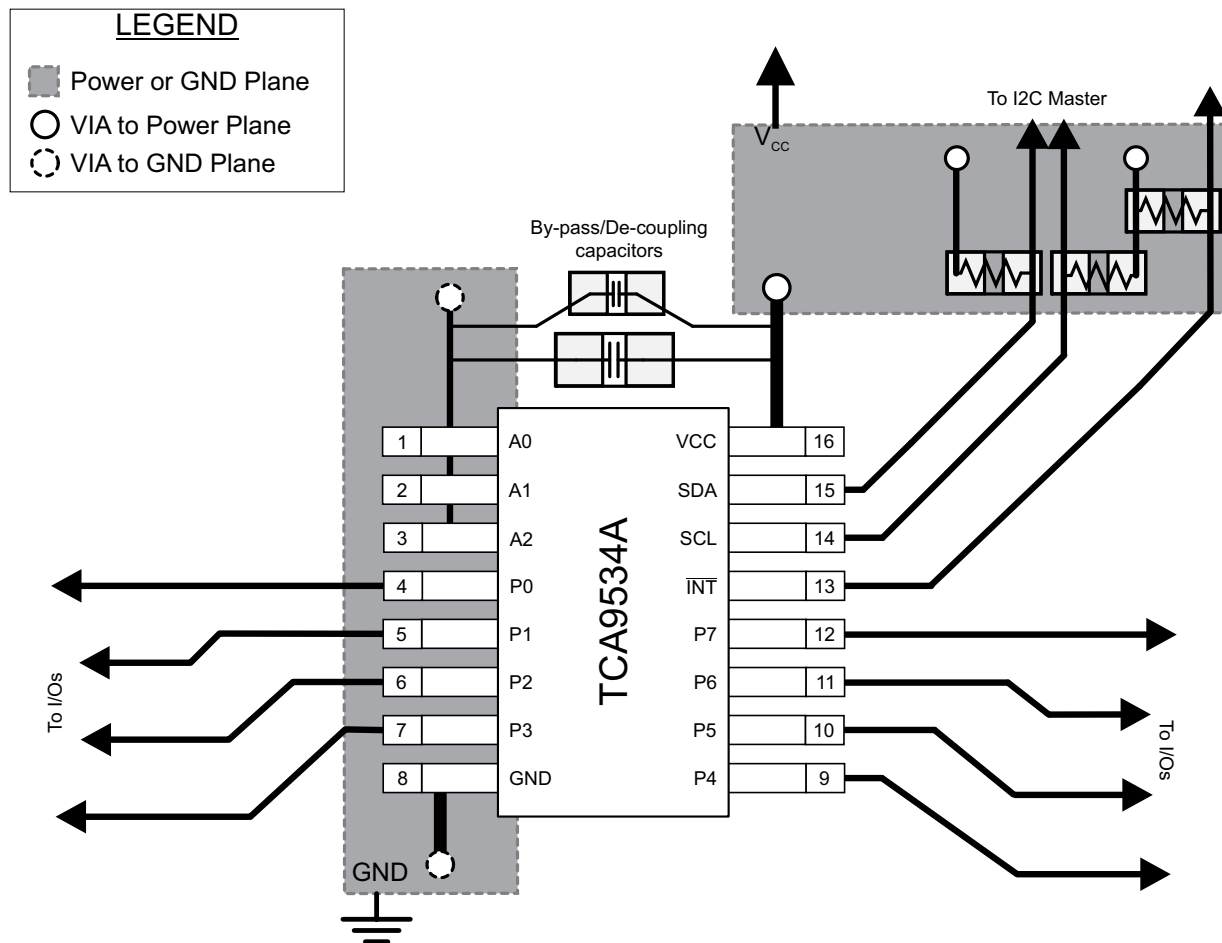

Figure 41. TCA9534A Layout
In all PCB layouts, it is a best practice to avoid right angles in signal traces, to fan out signal traces away from each other upon leaving the vicinity of an integrated circuit (IC), and to use thicker trace widths to carry higher amounts of current that commonly pass through power and ground traces. By-pass and de-coupling capacitors are commonly used to control the voltage on the VCC pin, using a larger capacitor to provide additional power in the event of a short power supply glitch and a smaller capacitor to filter out high-frequency ripple. These capacitors must be placed as close to the TCA9534A as possible. These best practices are shown in Figure 41.
For the layout example provided in Figure 41, it is possible to fabricate a PCB with only 2 layers by using the top layer for signal routing and the bottom layer as a split plane for power (V_{CC}) and ground (GND). However, a 4 layer board is preferable for boards with higher density signal routing. On a 4 layer PCB, it is common to route signals on the top and bottom layer, dedicate one internal layer to a ground plane, and dedicate the other internal layer to a power plane. In a board layout using planes or split planes for power and ground, vias are placed directly next to the surface mount component pad which needs to attach to V_{CC} or GND and the via is connected electrically to the internal layer or the other side of the board. Vias are also used when a signal trace needs to be routed to the opposite side of the board, but this technique is not demonstrated in Figure 41.